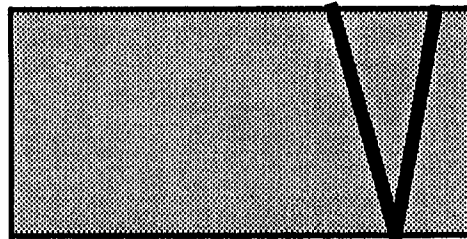

Figure 2
3. If the copy looks like one of the strips in Figure 2, the problem is in the media feed.